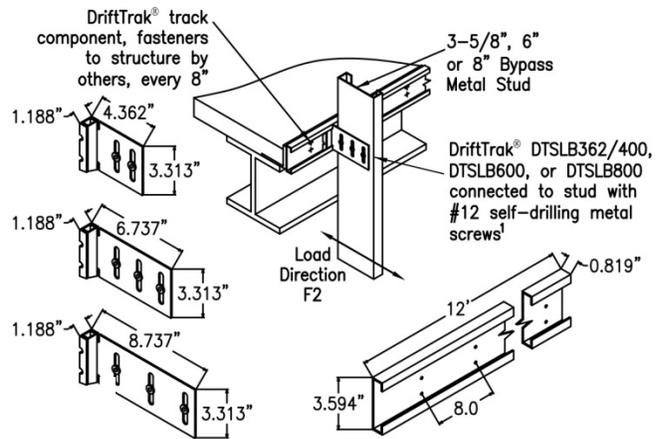

Figure 9 – DriftTrak® DTSLB362/400, DTSLB600 and DTSLB800
**3.3.5 DriftTrak® DTSLB:** DriftTrak® DTSLB362/400, 600 and 800 are L-shaped angle and track combinations that connect  $3\frac{5}{8}$  or 4, 6 and 8 inch deep (92 or 102, 152, and 203 mm) exterior curtain wall steel studs, respectively, to a concrete floor slab's pour-stop angle while allowing a maximum of 2 inches (51 mm) of vertical movement, and free horizontal movement between exterior wall elements and the primary structure. The minimum base-metal thickness of the clip is 0.0677 inch (1.7 mm), and the minimum base-metal thickness of the track is 0.0966 inch (2.5 mm). The long leg of the DriftTrak DTSLB connector, which is fastened to the curtain wall stud, has two or three vertical slots, each  $\frac{3}{8}$  inch (9.5 mm) wide by  $2\frac{3}{8}$  inches (60 mm) long and has bushings designed for #12 self-drilling/self-tapping steel screws installed in the centers of the slots. Refer to Figure 9 for overall dimensions of each DriftTrak DTSLB connector and a typical installation detail.